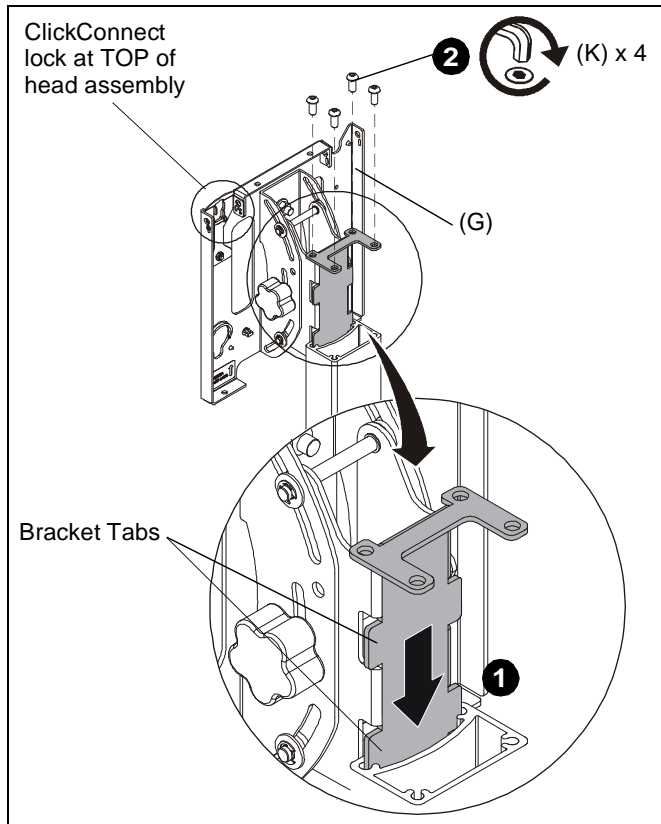

Figure 5
IMPORTANT ! : When attaching head assembly ensure that the ClickConnect lock is at TOP of head assembly, and bracket tabs slide into the cart assembly. (See Figure 5)
1. Slide head assembly (G) into the cart assembly. (See Figure 5)
2. Attach head assembly (G) to the cart assembly using four 5/16-18 x 3/4" button head cap screws (K). (See Figure 5)